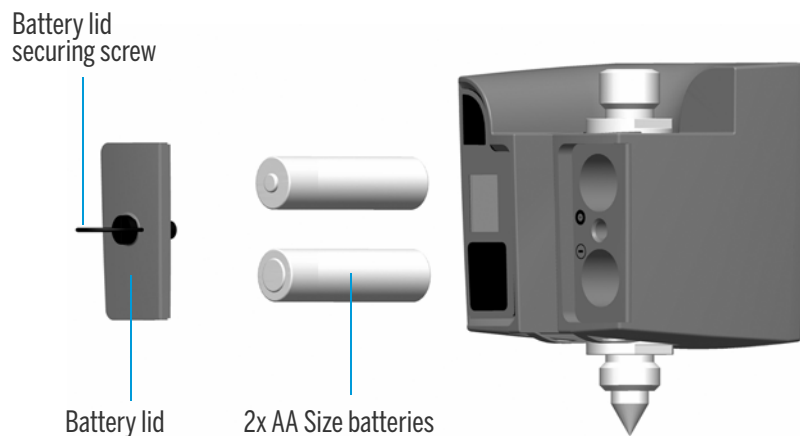

Figure 5.7 Target ID battery change
4. Fit the battery lid and then secure it by turning the screw a quarter of a turn clockwise. See Figure 5.7